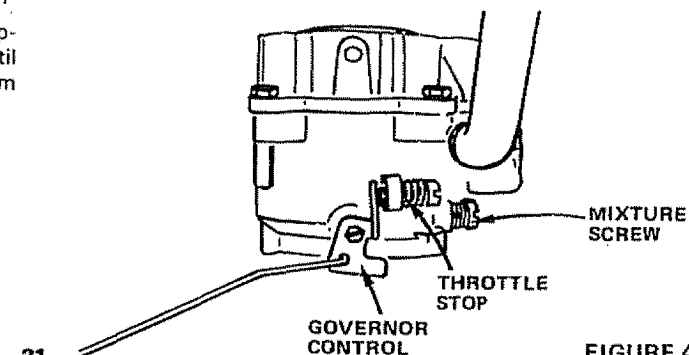

FIGURE 49
- a. Gently turn idle mixture valve clockwise ($\curvearrowright$) Fig. 49 until it just closes and then counterclockwise ($\curvearrowleft$) $1 \frac{1}{2}$ turns.
- d. Hold governor control lever against idle speed screw, and adjust idle speed screw to obtain 1200 to 1400 RPM. Fig. 49.